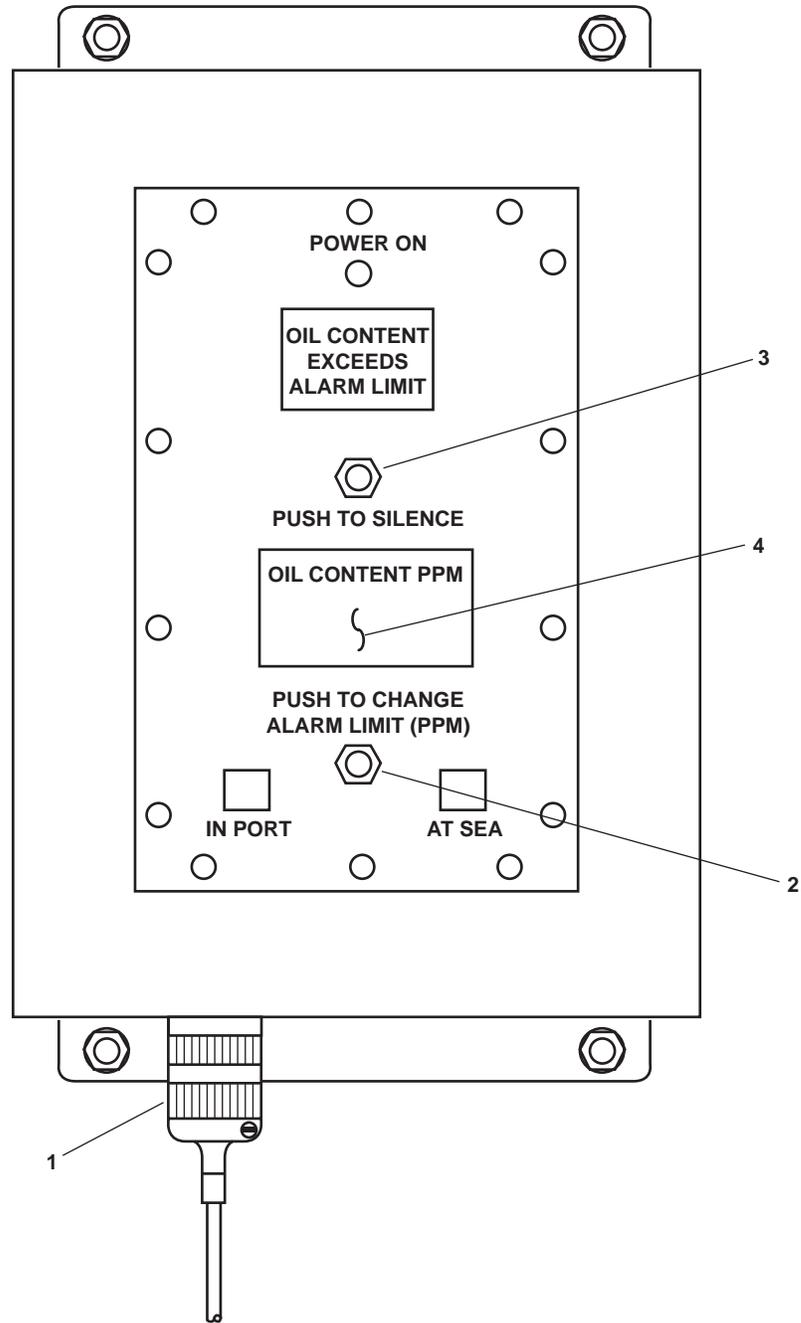
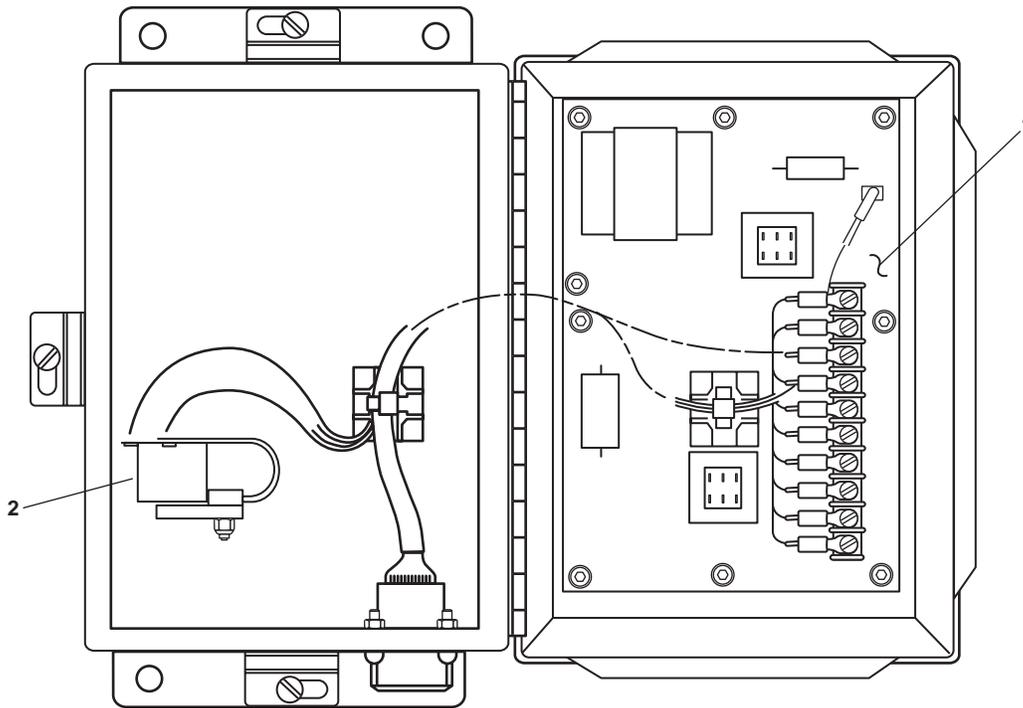

Figure 7. Remote Indicator (Alarm) Assembly, External
Figure 8. Remote Indicator (Alarm) Assembly, Internal
The cable from the sampling/sensor assembly (A1P2) connects to receptacle A2P1 (figure 7, item 1) on the bottom of the enclosure and provides all power (120 Vac, single-phase, 60 Hz), alarm, and display signals for its operation. The remote indicator (alarm) assembly also provides the following controls and indicators:
PUSH TO CHANGE ALARM LIMIT (PPM) pushbutton switch A2S1 (figure 7, item 2). This switch alternately selects the OCM alarm limit (15 or 70 PPM) when pressed. This switch functions only when the system is operated in the automatic mode (alarm limit selector switch A1S2 is in the REMOTE position). Each time the switch is pressed, the alarm limit toggles between 15 and 70 ppm.
PUSH TO SILENCE pushbutton switch A2S2 (figure 7, item 3). This pushbutton switch alternately engages and disengages the alarm buzzer when pressed.
The circuitry of the remote indicator (alarm) assembly includes an alarm PCB (figure 8, item 1), an audible buzzer (figure 8, item 2), and an indicator faceplate (figure 7, item 4). The alarm PCB contains the electrical circuits, switches A2S1 and A2S2, LED status displays, and numerical LED effluent oil content display. The audible alarm buzzer is mounted to the back of the enclosure. It is activated when the selected alarm limit is exceeded. The buzzer can be disengaged by the PUSH TO SILENCE pushbutton switch A2S2. The indicator faceplate provides legends for the visual OCM status indicators and switches A2S1 and A2S2.